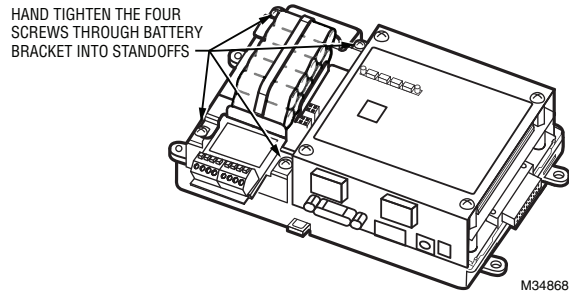

Fig. 4. Re-Fasten Screws through Battery Bracket.
9. Place the four screws through the battery bracket, end plates and into the standoffs on the controller base board. Hand tighten these screws (see Fig. 4).